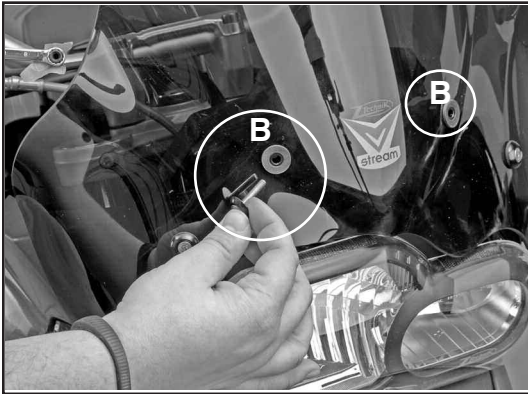

Figure 16
11. Install windscreen at the inner mount (B) locations using the screw assembly as shown in figure 16 and Diagram d. **Do not fully tighten at this time.** (5mm Hex Wrench, Closed Box Wrench) Figure 16, Diagram d